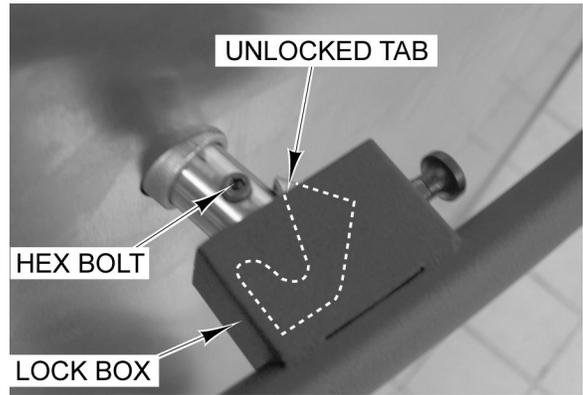

Fig. 15
- G. To close handle, the lock mechanism needs to be in the unlock orientation (Fig. 15).
- H. Place lock box over hex bolt and slowly push handle in to door (Fig. 15). Check to see if the handle latch engaged by opening door (Fig. 10). Repeat if necessary.